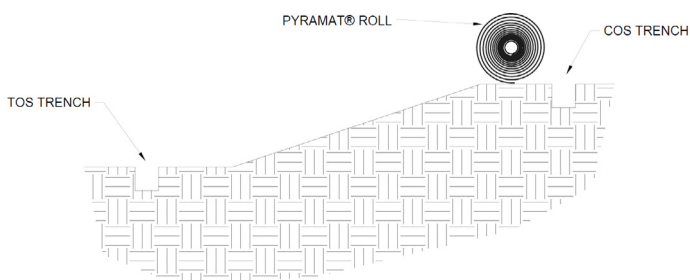
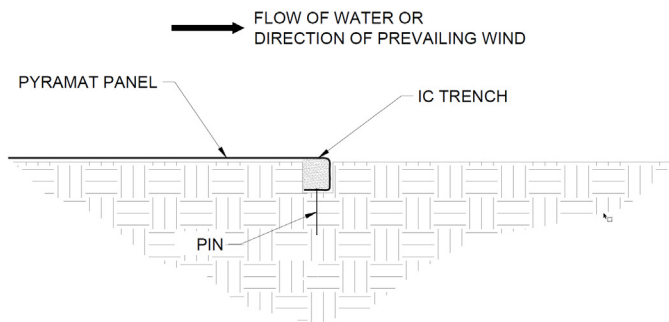
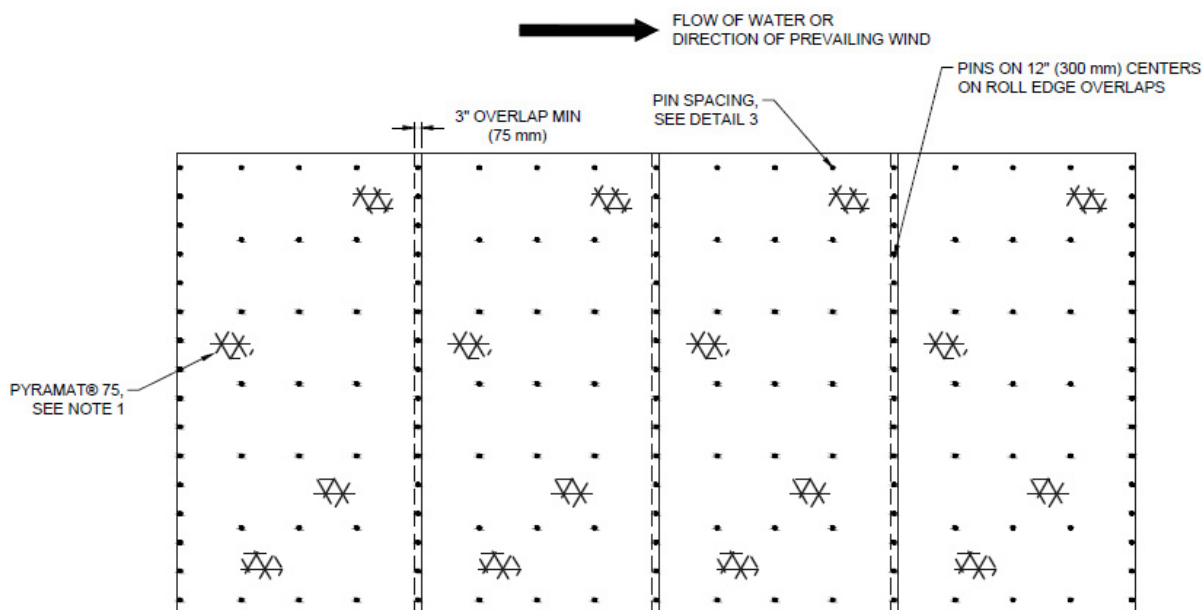
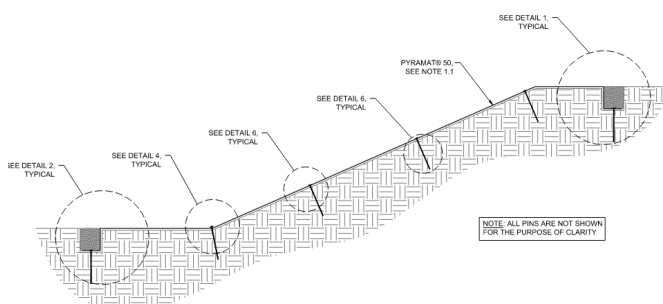

Figure 3: Crest of Slope (COS) trench alignment
Figure 7: Example pin pattern
Figure 8: Example of panel overlap
Figure 13: Completed slope elevation view
2. Starting at the COS trench, lay the **PROPEX** Pyramat roll so that the roll ends point towards the crest of the slope (Figure 3), with a 3 in (75 mm) overlap created at adjacent panel edge locations. Ensure that adjacent panel edges maintain a minimum 3 in (75 mm) overlap during the material laydown (Figure 8).
- Secure **PROPEX** Pyramat panels in place using pins across the slope surface according to the project's engineered design. Pin placement should reflect a checkerboard pattern across the slope surface for best results (Figure 7 and Figure 8).
- Roll edges shall be overlapped a minimum of 3 in (75 mm) and a maximum of 6 in (150 mm) with pins placed on 12 in (300 mm) centers (Figure 8).
9. Continue to work down the length of the slope by repeating steps 1 through 8 overlapping each adjacent panel by 3 in (75 mm) (Figure 8). The last panel should terminate on the Slope Armoring Edge (SAE) with pins on 12 in (300 mm) centers. At a minimum, panels should be pinned entirely across the slope surface, pins should be installed in the trenches, and the trenches should be backfilled and compacted at the end of each day to minimize rework in the case of a major rain event. Specific project conditions may warrant further evaluation of installation order for ease. An example elevation view (Figure 13) of a slope armored with **PROPEX** Pyramat can be seen below for overall reference. Consult Solmax engineering services at (800) 621-1273 with any questions that you may have.